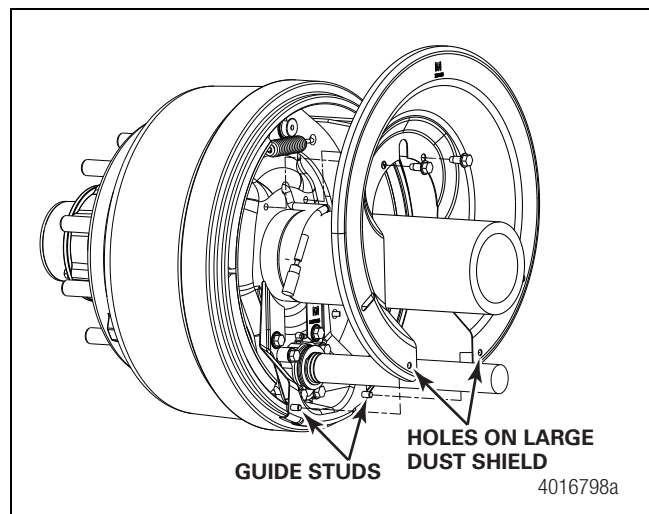

Figure 5
6. Place the large dust shield into position on the axle from the opposite side of camshaft. Install the dust shield on the inboard side of spider so that large dust shield overlays the lower dust shield and the lower dust shield's guide studs engage in the large dust shield's holes. Figure 5.